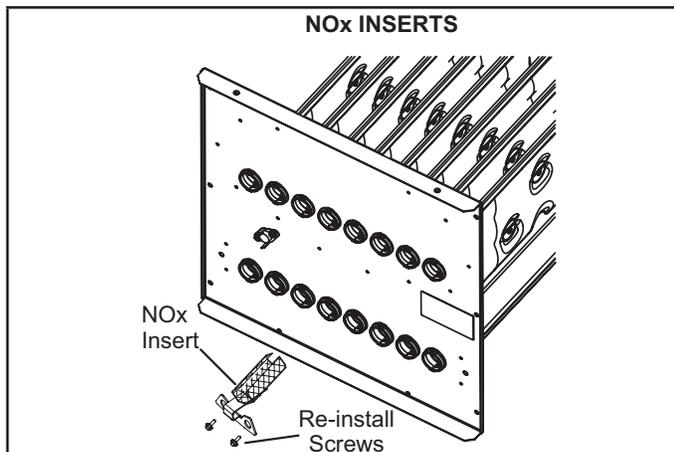

FIGURE 1
- 7 - **EL280(X) and SL280(X) NOX units being converted from natural to LP /Propane.**
- b - Remove the screw which secures each of the NOx inserts to the clamshell. Remove the NOx inserts and reinstall the screw. See figure 1.